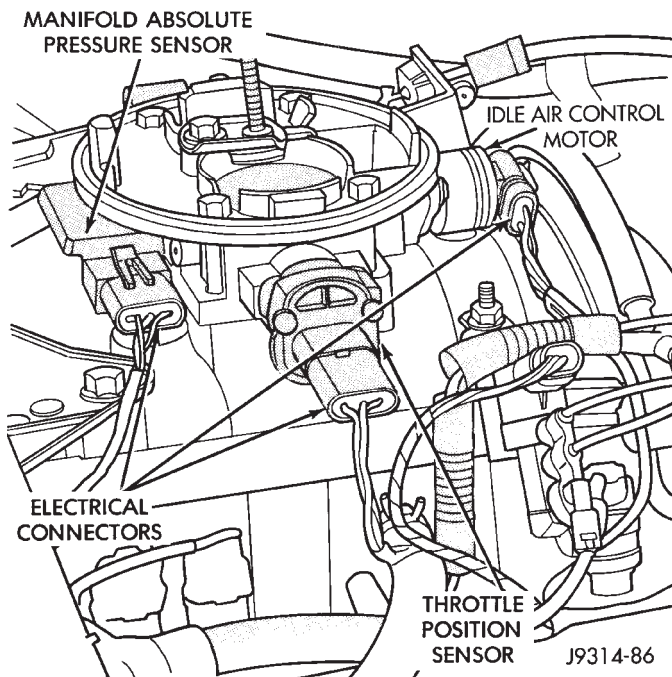
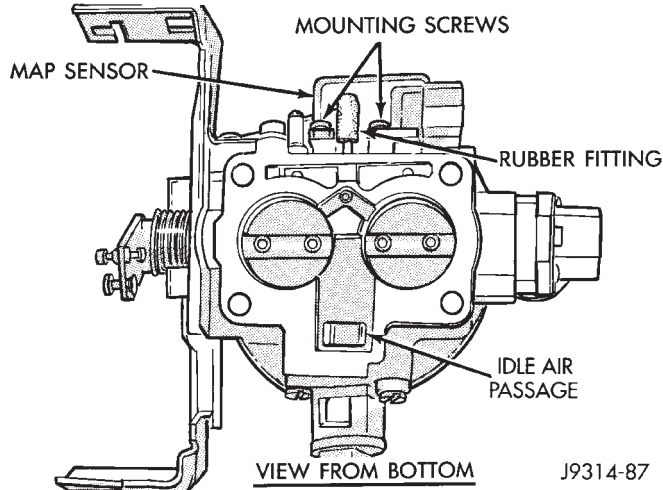

Fig. 7 Manifold Absolute Pressure (MAP) Sensor
Fig. 8 Rubber L-Shaped Fitting—MAP Sensor-to-Throttle Body
(17) Verify that MAP sensor electrical connector is firmly connected to MAP sensor (Fig. 7). Also verify that rubber L-shaped fitting from MAP sensor to the throttle body is firmly connected (Fig. 8).